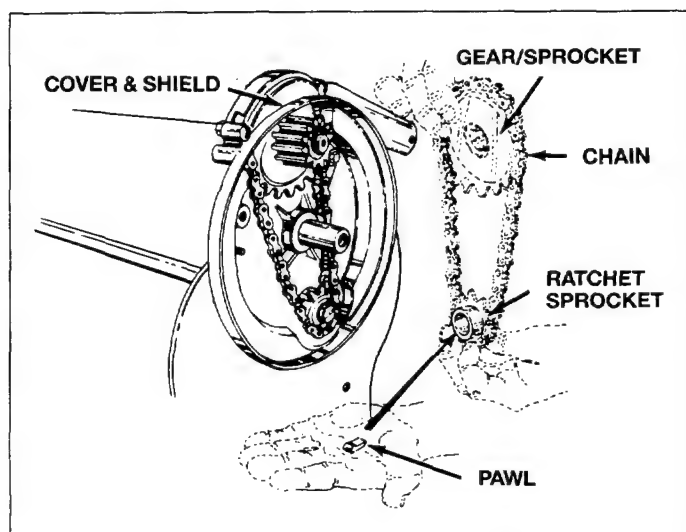

Fig. 34
2. Cover and shield must be removed to service chain, sprockets and pawl. (It is not necessary to remove cover and shield if you are only cleaning and oiling the chain). See figures 34 and 35.
3. Removal and reassembly of chain requires that gear and sprockets be held in position with chain and slipped over both shafts. See figure 34.
4. The pawl, inside ratchet sprocket, has a curved end (side) and a flat end (side). See figure 34. When re-assembling ratchet sprocket and pawl, fill the inside with grease. Re-assemble the wheel and turn wheel, if the brushes drive (rotate) in both directions, the pawl is assembled incorrectly, remove and flip pawl over. If the brushes drive (rotate) in one direction the pawl is assembled correctly.